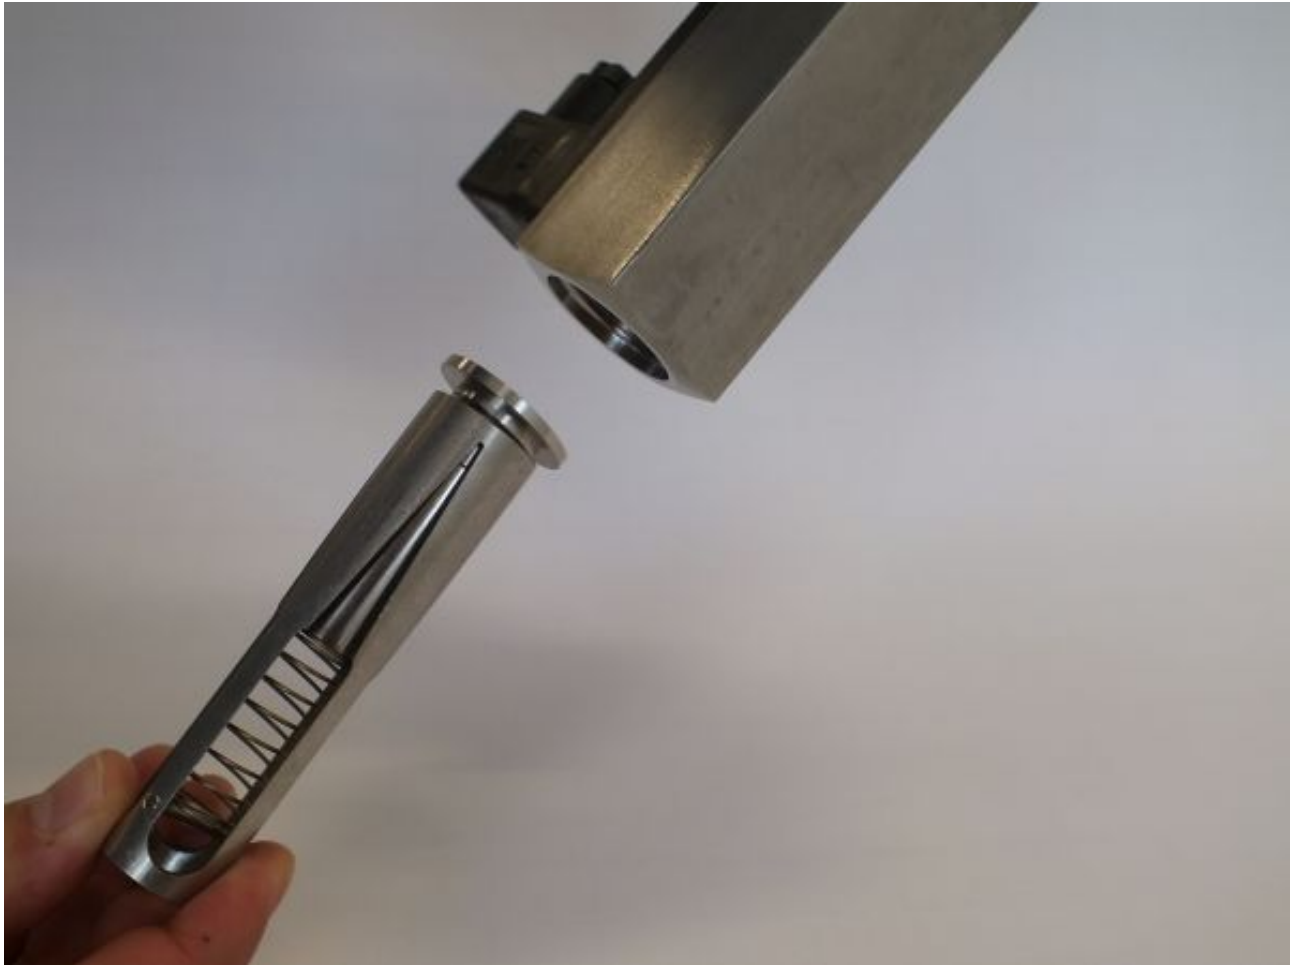

Fig. 53: Insert inner parts
7. ➤ Insert centering disc (inlet), float, spring and slot nozzle into the device body (*Fig. 53*)